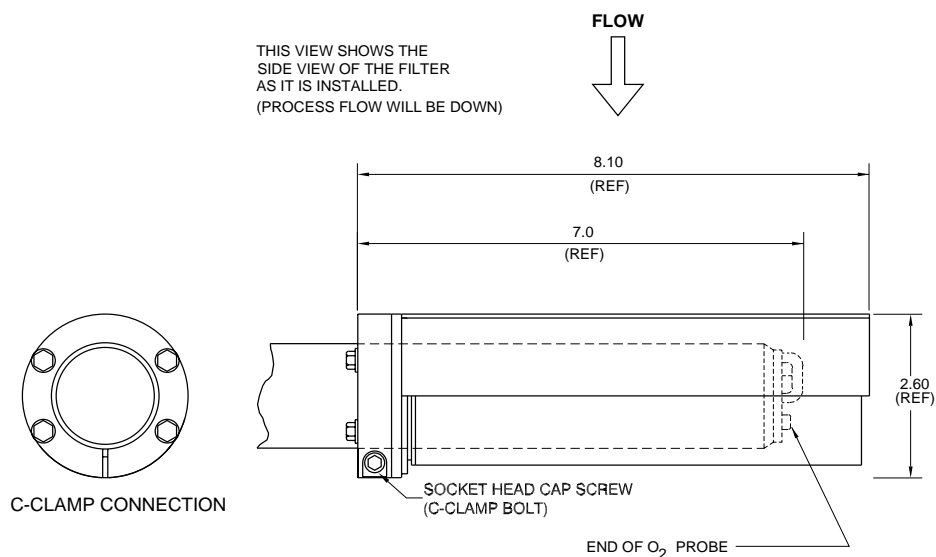

Figure 24: Fly Ash Filter
- 7) Mount probe support perpendicular to gas flow. If probe protector is used instead of support, take care to position the notched edge of protector upstream from the gas flow, as shown in figure 24.